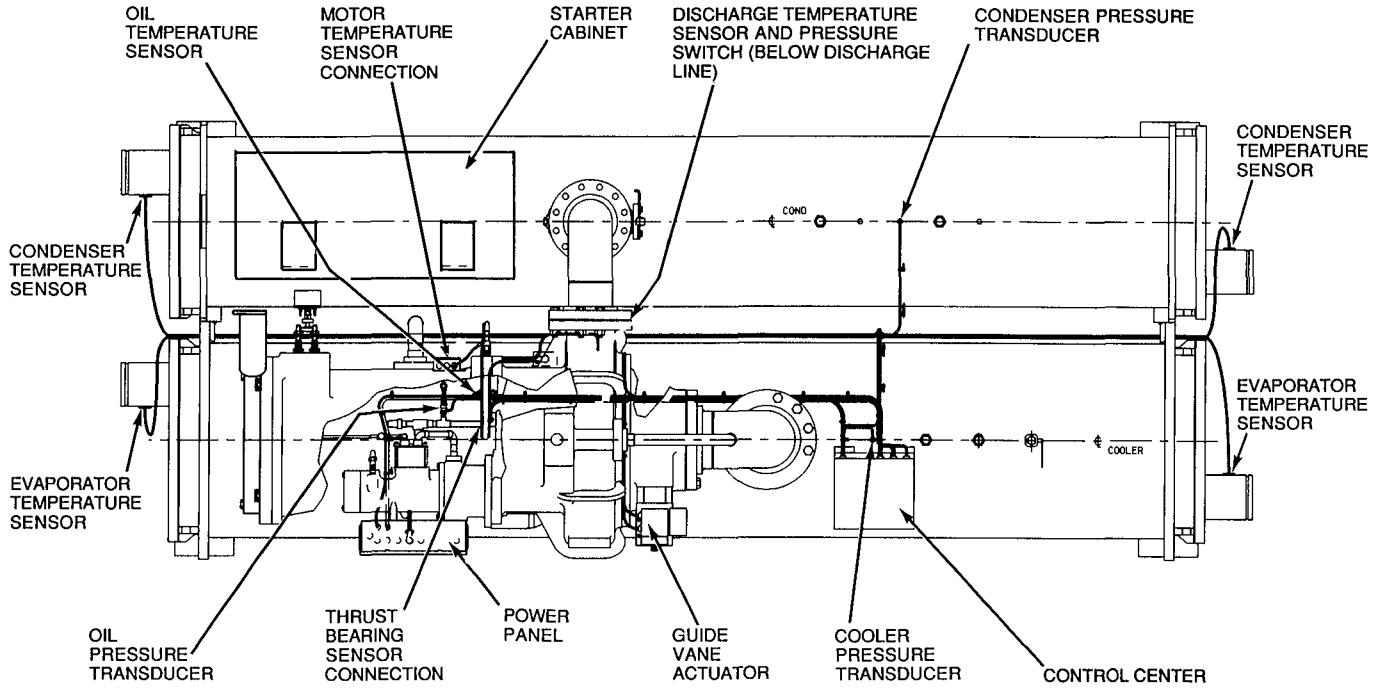

Fig. 7 - 19XL Controls and Sensor Locations
Thermistors	See Fig 7
Pressure Transducers	See Fig 7
*See Fig 5, Fig. 7 - 11.